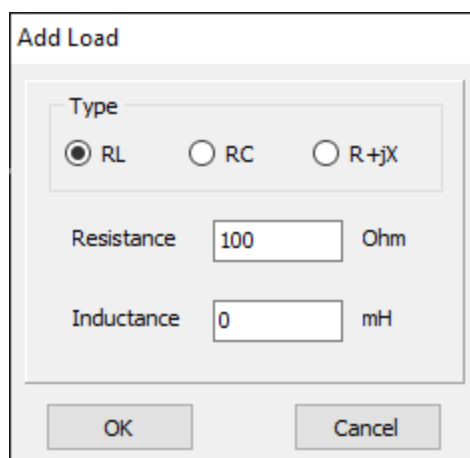

Fig. 3: Add Load dialog box.
Click the **Add Load** button to display a dialog box for adding a load to the selected wire segment, as shown in Fig. 3. A load can represent either a resistor in series with an inductor (RL), a resistor in series with a capacitor (RC), or a fixed impedance (R+jX) where the reactance X does not scale with frequency.